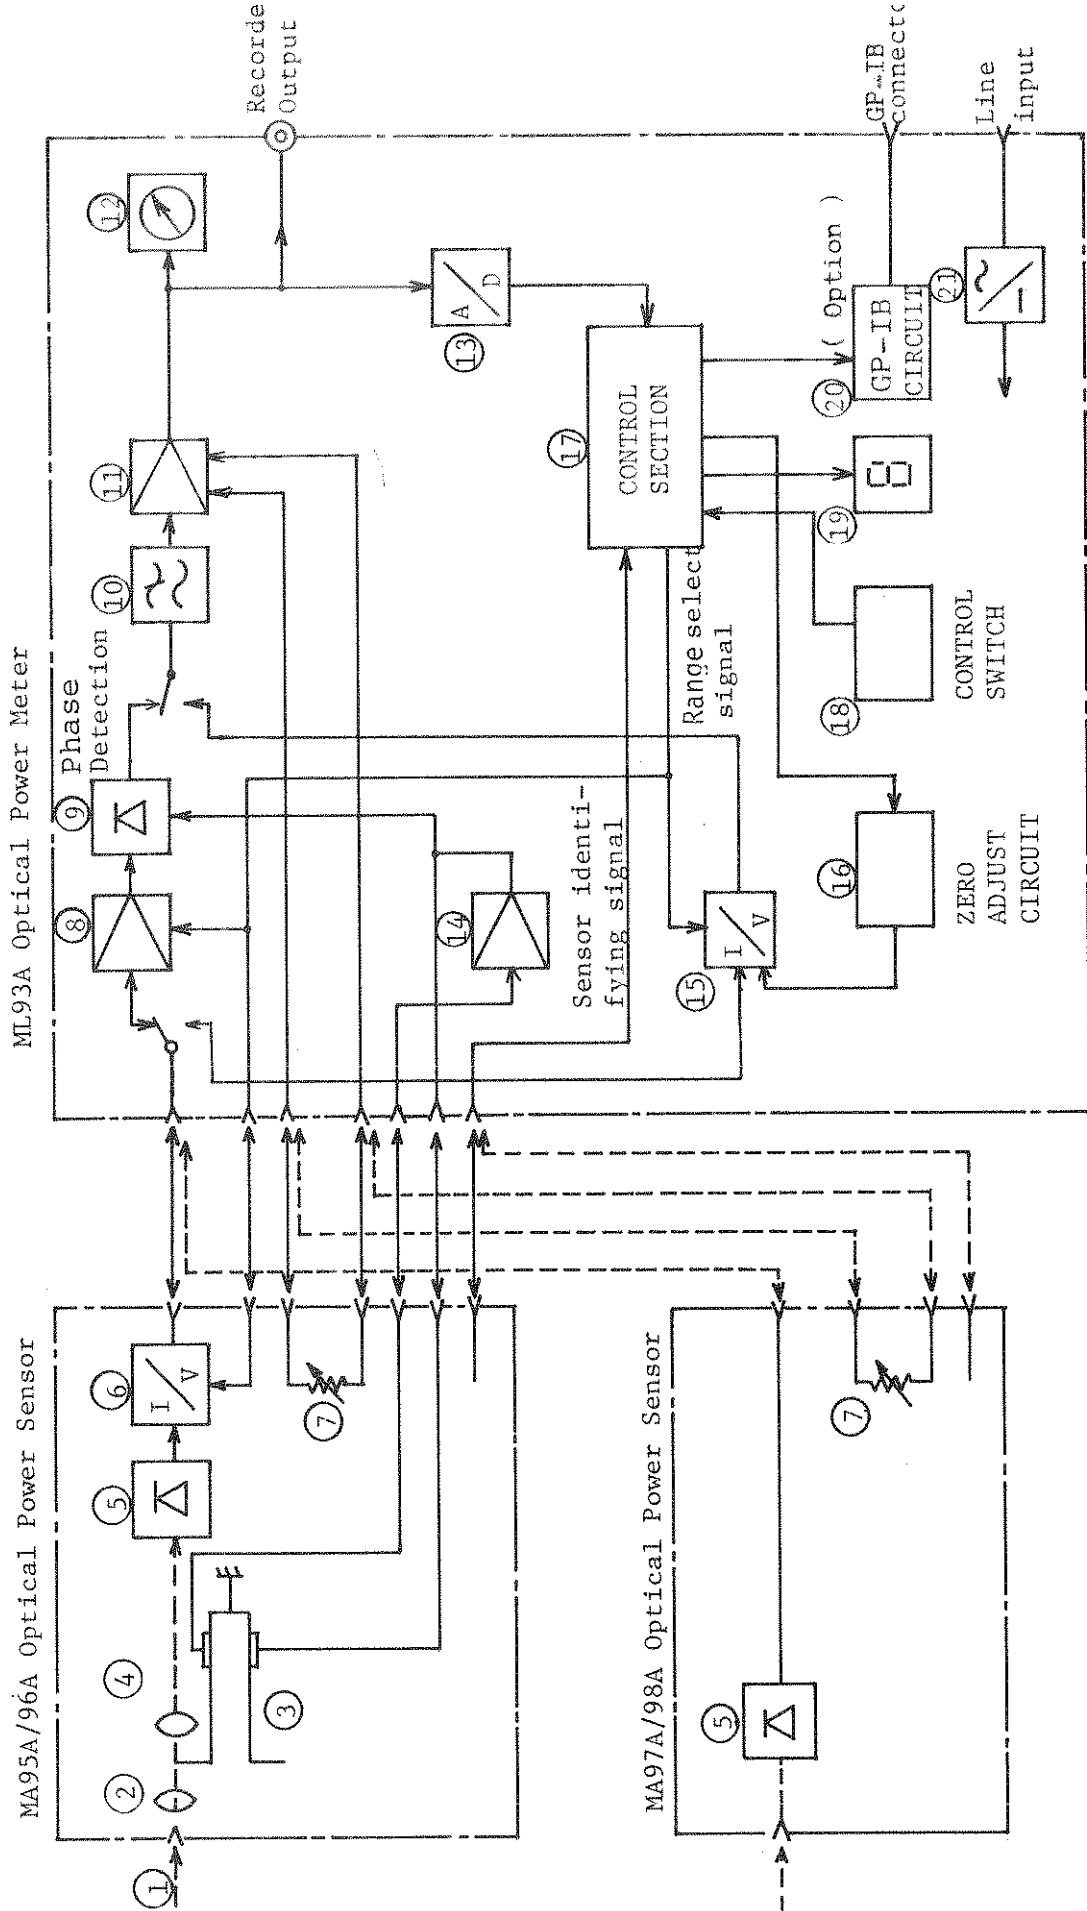

Fig. 3-1 Optical Power Meter Block Diagram
The MA95A uses a silicon photodiode and the MA96A employs a germanium photodiode as the photoelectric conversion element. Fig.3-1 shows a block diagram of the optical power meter. The light input power from the light connector (1) is focused by the lens (2) on a shading plate on the tuning fork (3). The collimated light is interrupted by the tuning fork with a repetition frequency of approx. 270 Hz and then concentrated on the photodiode (5) by the lens (4). It is converted into photoelectric current and then converted further into voltage by the current-to-voltage conversion circuit (6), which is an operational amplifier. The conversion circuit (6) controls the gain according to the input optical power level over three ranges, 0 to -30 dBm, -30 to -60 dBm and -60 to -90 dBm to expand the dynamic range of the optical power sensor.